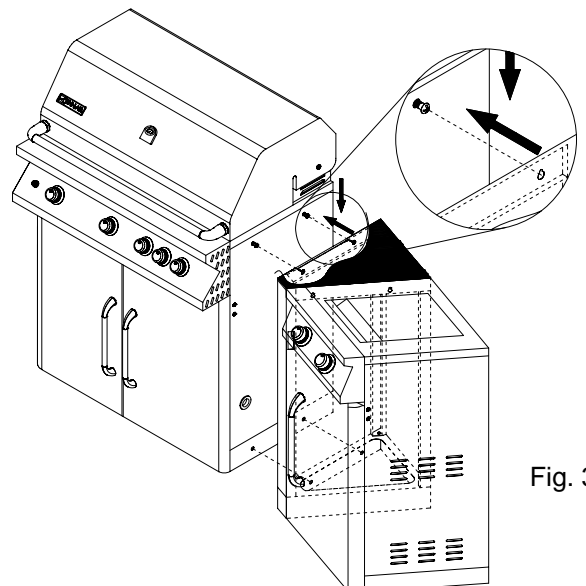

Fig. 3
Step 3: Align the pie cart with the heads of the side panel top screws, and push the pie cart down to lock in position before tightening. (Fig. 3)
3. Push Plug until sleeve snaps forward locking Plug in Socket (fig.3). (THIS TURNS ON GAS AUTOMATICALLY).